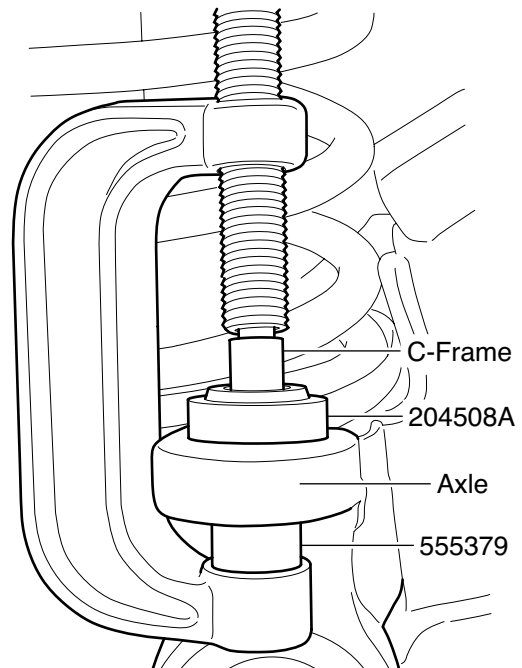

Figure 2. Ball Joint Installation
3. Position 204508A (or 555380) on the ball joint as shown in Figure 2.